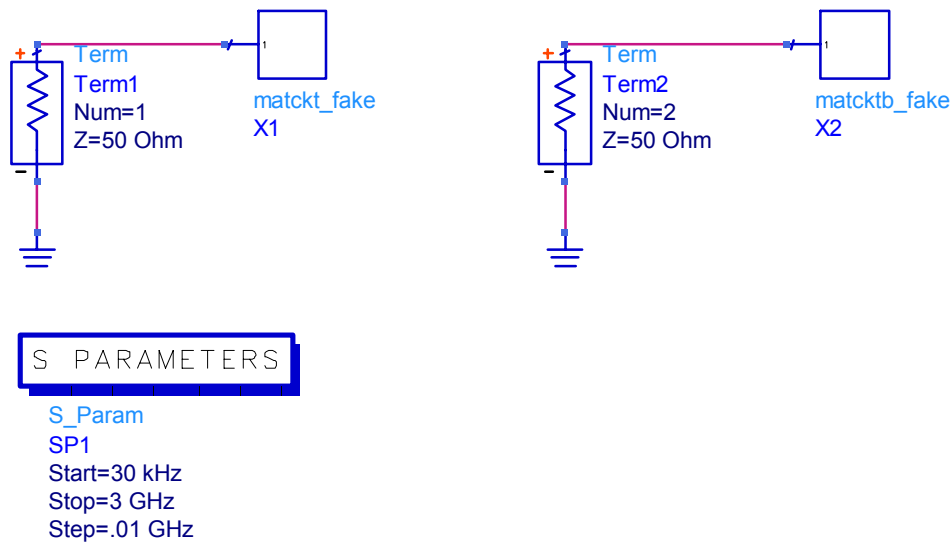

Figure 5. Illustration of the "higher-level" schematic that references two individual circuits as black-boxes.
12. Finally, click on the button on the upper left-hand side of the window and place a S_Param:S-parameter Simulation element in the schematic window. Set the start frequency to 30 KHz, the stop frequency to 3 GHz, and the step size to 0.01 GHz. Your schematic should now resemble Figure 5.
13. Before proceeding with the simulation, it is important to point out something relating to the numbering of the port terminations. Notice in Figure 5 that Term1 is connected to matchkt_fake and Term2 is connected to matchtb_fake. Since ADS sees TWO terminations in the schematic it will automatically assume that this is a TWO-PORT circuit, while in reality we have two, 1-PORT circuits that are not physically connected to each other. Because ADS assumes this is a 2-port circuit, it will calculate four S-parameters (S_{11} , S_{21} , S_{12} , S_{22}). Clearly, S_{21} and S_{12} have no meaning here and we will thus disregard them. S_{11} refers to the input reflection of matchkt_fake and S_{22} refers to the input reflection of matchtb_fake. (Clearly this procedure becomes increasingly complicated as more black-box circuits are added to a schematic, and when the number of terminations on any given black box increases, e.g., if each black box was a 2-port instead of a 1-port network.)